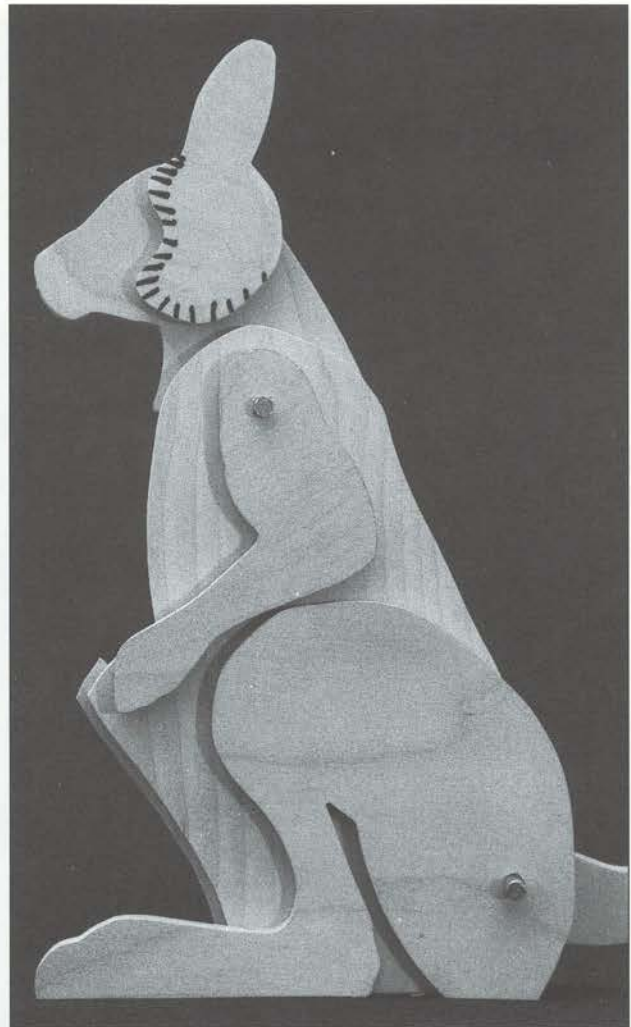
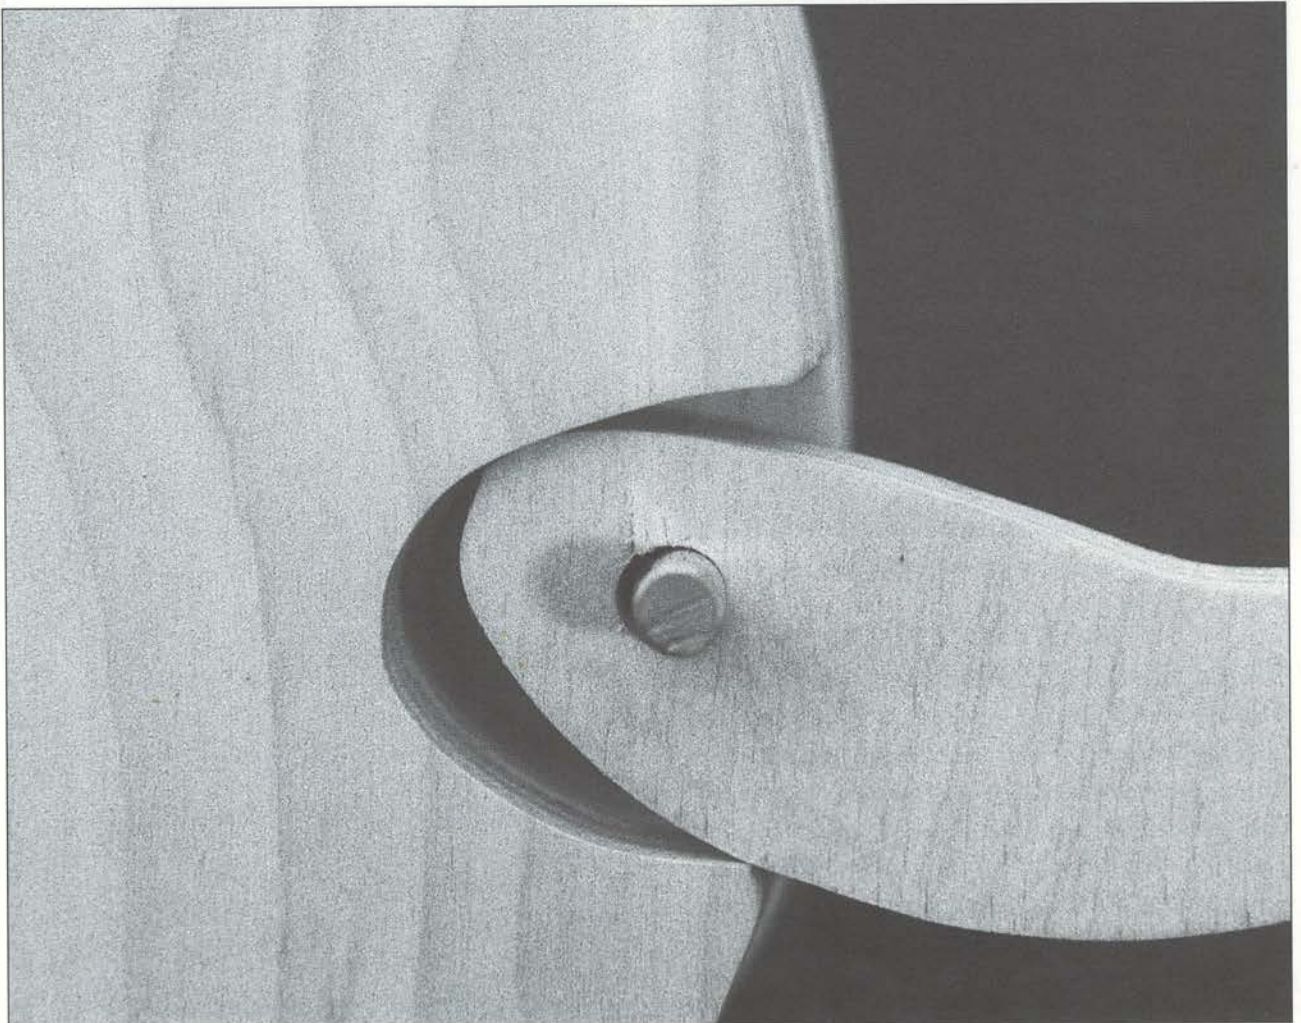

Fig 4.7 Assembling the parts to check the fit.
Fig 4.9 The base of the tail (G) fits into a recess in part A. The metal rod holds the tail in place.
Insert one of the two $2\frac{11}{16}$ in x $\frac{1}{4}$ in (68 x 6mm) metal dowels into each of the two holes in the body. Before inserting dowel into the lower hole, fit the tail (G) into place in the recess in the body as shown in Fig 4.9. Then place the fore and hind legs temporarily in position on the ends of the dowels to check for free movement (see Fig 4.7). If the movement of any of the parts is stiff, remove the part and open up the hole slightly with a small round file. When you are satisfied with the movement of all parts, disassemble the parts and remove the metal dowels.
When the paint has thoroughly dried, place the base end of the tail into the recess of the kangaroo's body and insert a steel dowel through hole in the body and tail (see Fig 4.9). Insert the other metal dowel through the hole in the shoulder area of the kangaroo. Should paint be clogging any of the holes, clean them out with a small round file.